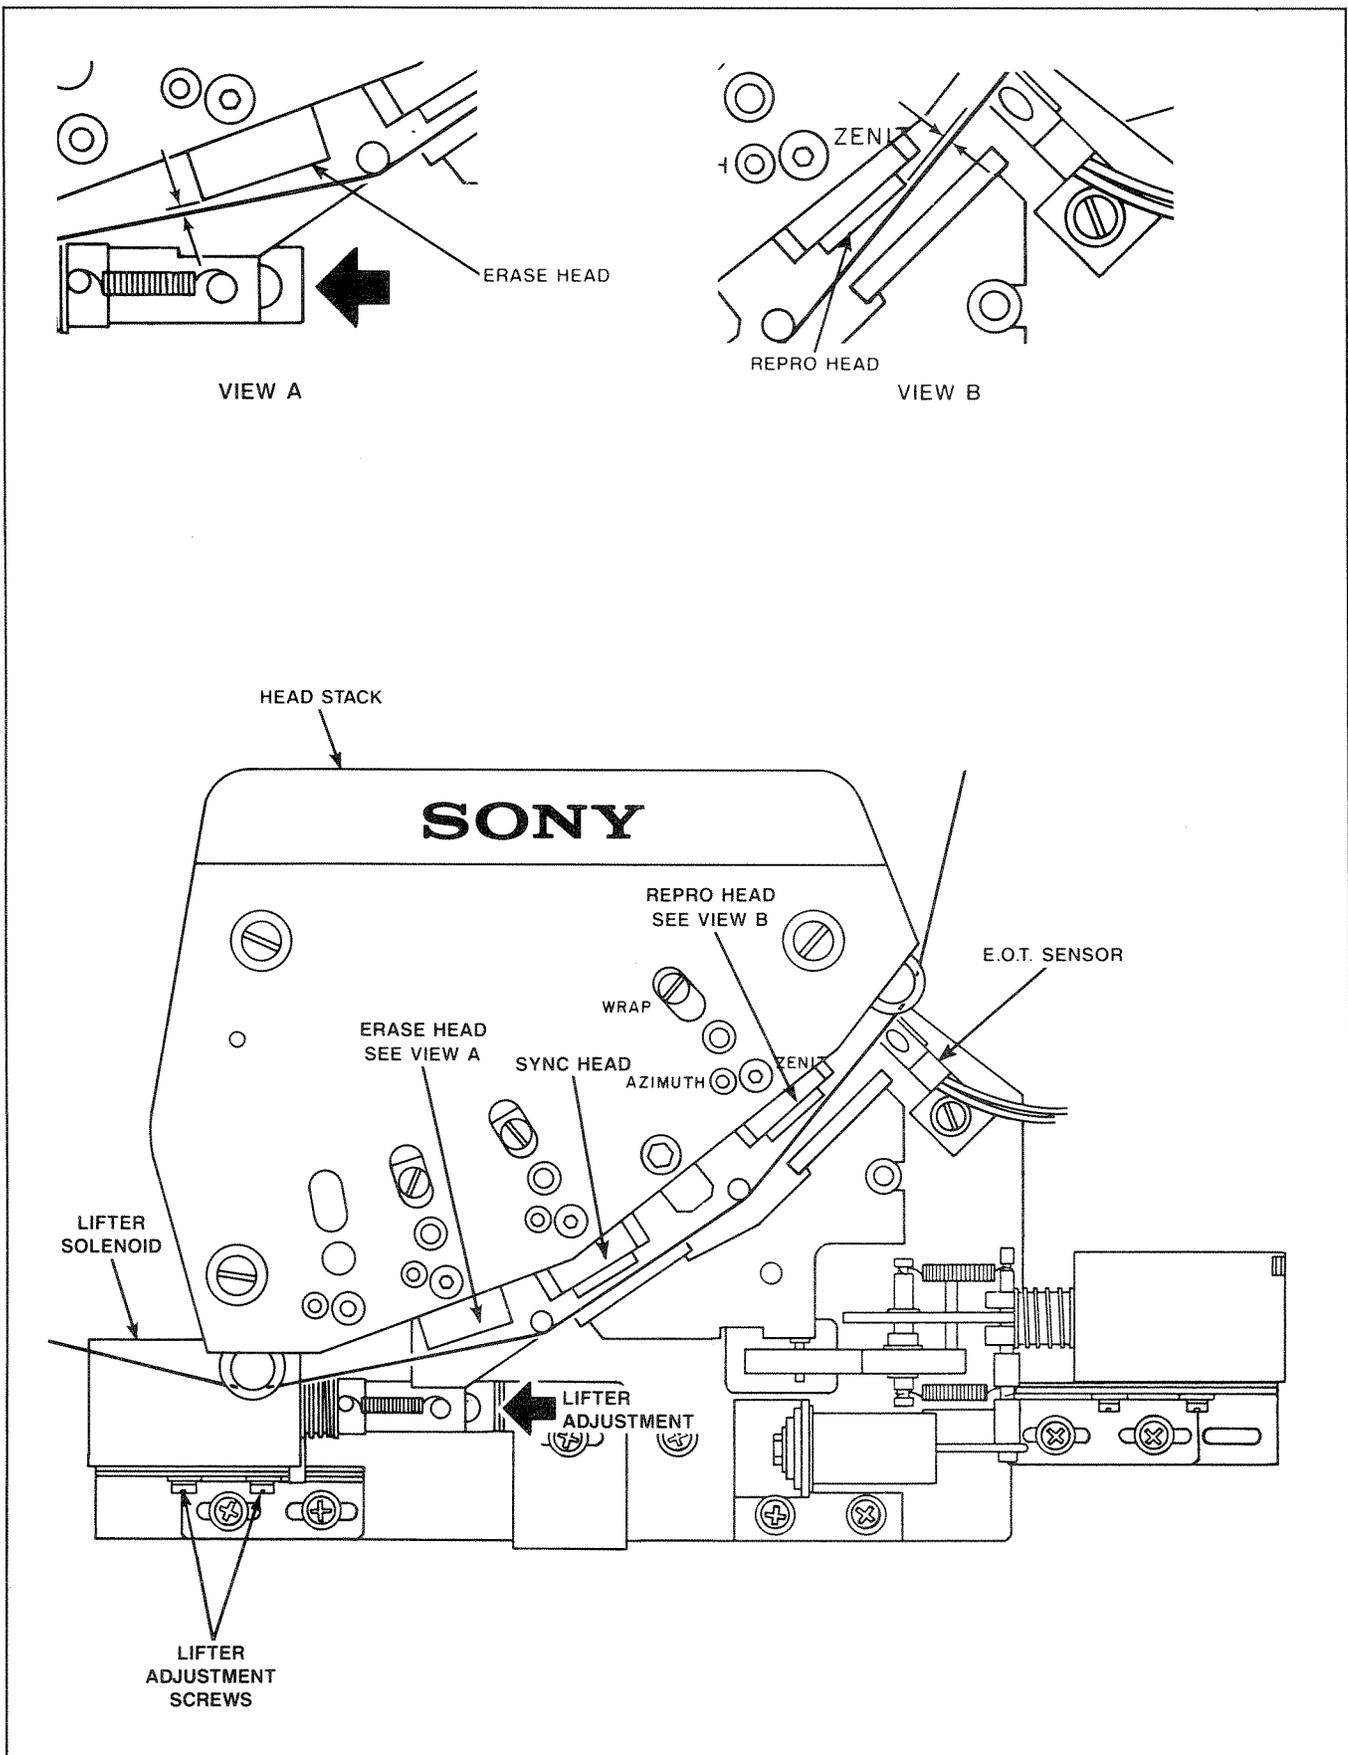

Figure 6-29. Lifter Adjustment
- STEP 3** Loosen the tape lifter plunger mounting screws. Push the plunger piece toward the ball as shown in Figure 6-29.